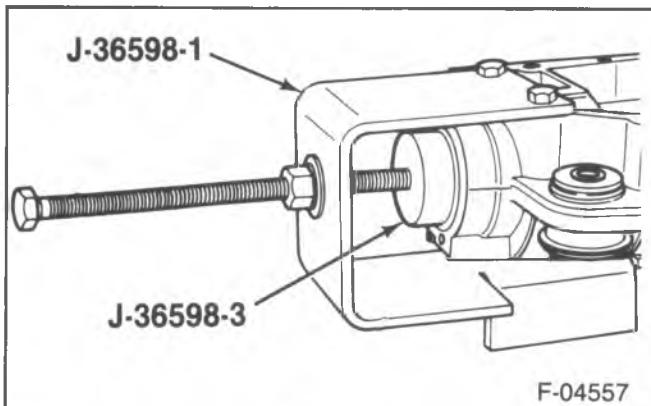

Figure 97—Installing the Outer Pinion Bearing Cup
- Outer pinion bearing cup (41) into the case using J-36598-3 or J-36598-4 (figure 97).